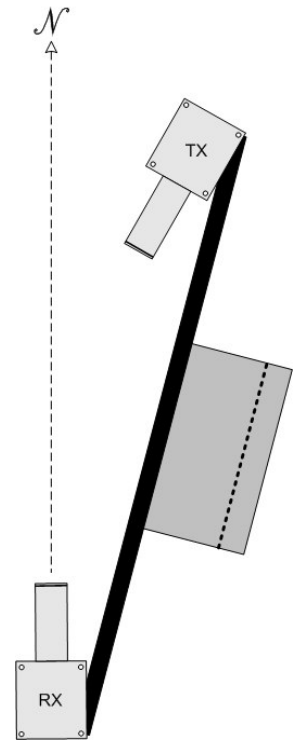

Figure 2.1.1-1 Sensor Orientation
- In general, orient the sensor receiver optics so they face within 30 degrees of North in the Northern hemisphere or South in the Southern hemisphere to eliminate direct sunlight contamination. Figure 2.1.1-1 shows the correct orientation in the Northern Hemisphere. In the southern Hemisphere, rotate the sensor 180 degrees. *Note the orientation is not critical; it may be adjusted to fit the needs of the installation.*